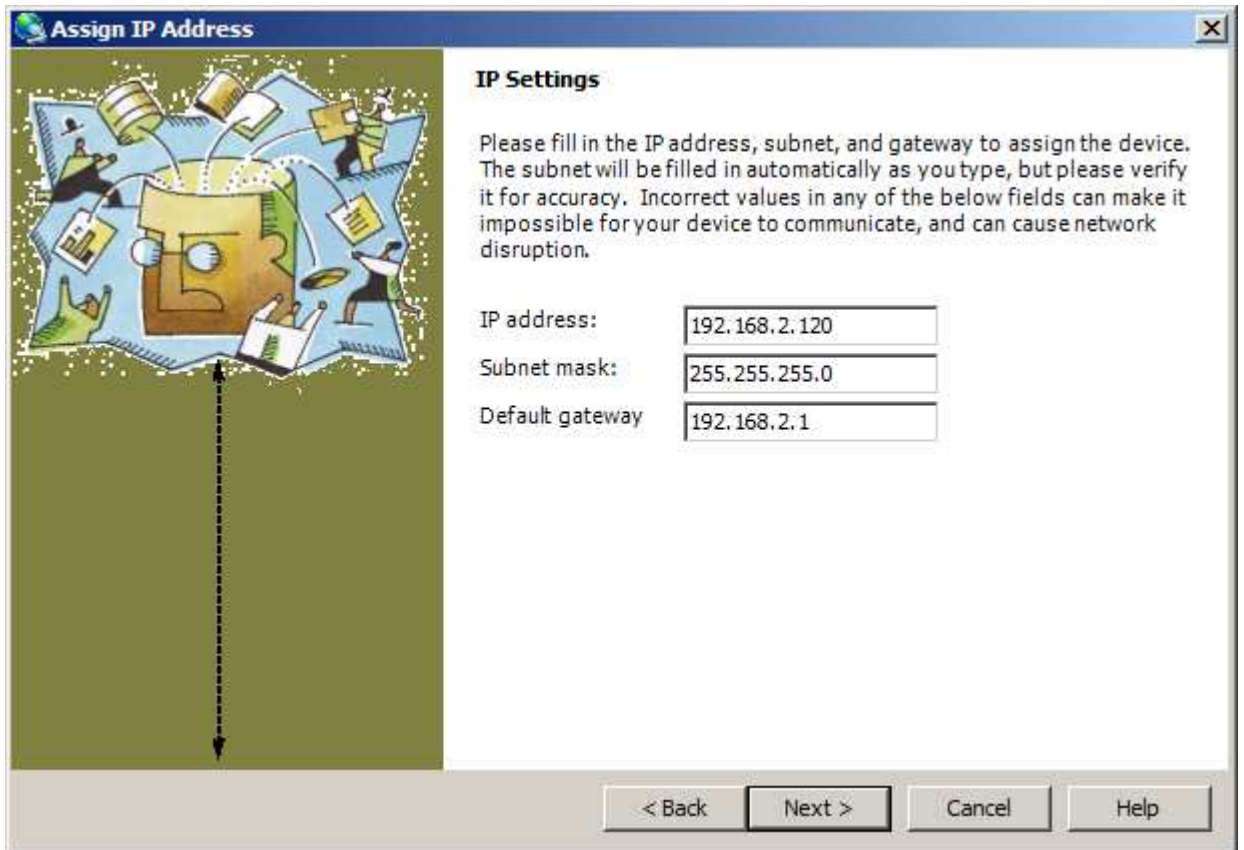

Figure 11 - Entering the IP settings
- 10) With the specific (static IP address) option selected, the IP Settings panel is displayed (Figure 11).